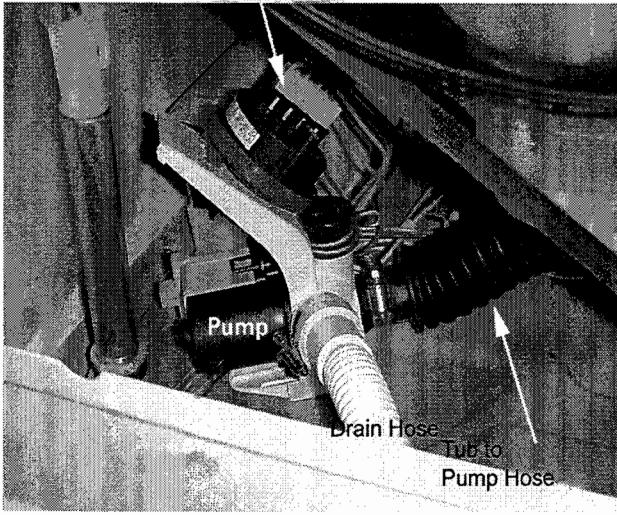

**Figure 3**
3. Remove the individual wire harnesses from the assembly and the two mounting screws. **Figure 3**